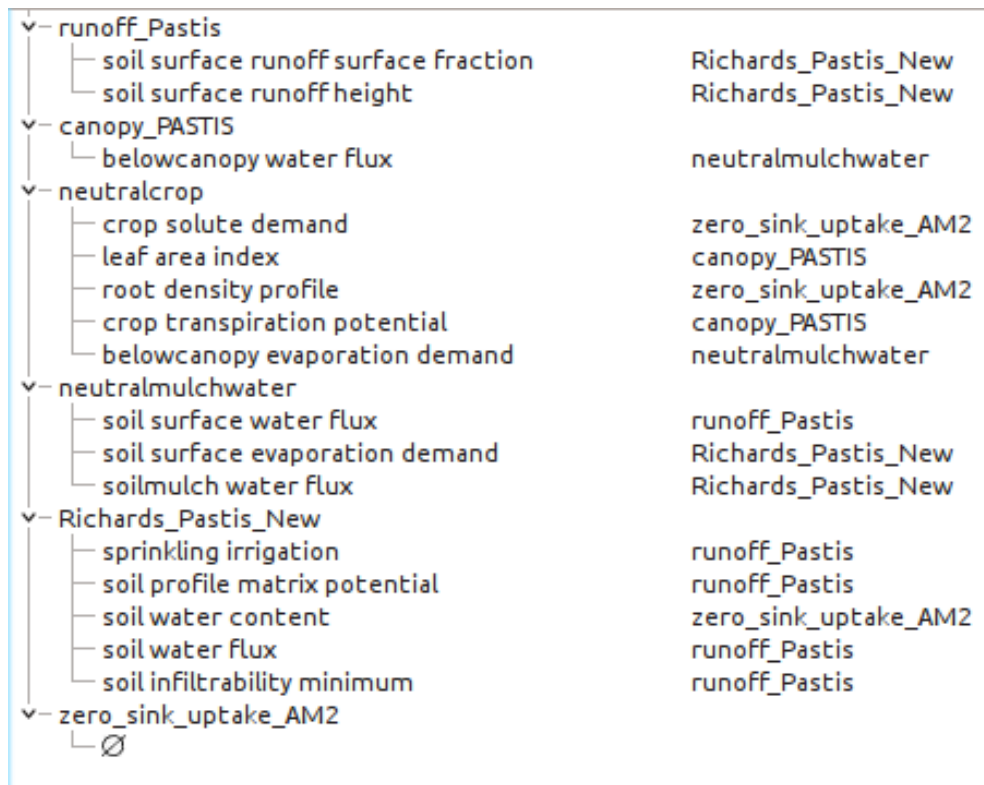

Figure 33: List of modules to be scheduled with produced variables and downstream modules
2. **Text part** For each module are specified the variables it produces and for each variable is specified the module which uses it (see figure 33).